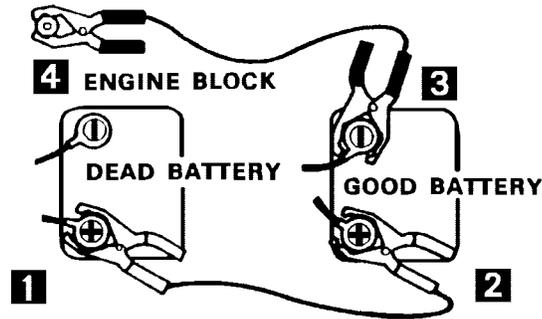

Figure 5-1. Proper jump start procedure
(1) Start the vehicle engine supplying the auxiliary power and adjust the engine idling speed to 1200 revolutions per minute (RPM).
(2) Connect the slave cable to the auxiliary power receptacle in each vehicle. Connect the slave cable positive-to-positive and negative-to-negative. If the dead vehicle has a master switch, turn it off while connecting the slave cable.
(3) Turn on the master switch in the receiving vehicle.
(4) Start the dead engine and adjust the engine idling speed to slow.
(5) Disconnect the extension cable from both vehicles as soon as the receiving vehicle idles at 650 RPM without stalling.
(6) Increase the engine speed in the receiving vehicle to 1000 to 1200 RPM. Check the vehicle's battery-generator indicator to ensure that it shows the battery is being charged.
d. Jump starting procedure. Refer to figure 5-1 for a proper jump starting procedure illustration. To jump start a vehicle, ensure that—
(1) Batteries are the same voltage.
(2) Both the negative posts are grounded.
(3) The electrolyte not frozen.
(4) The vehicles are not touching.
(5) Ignition and accessories are off, gears in park or neutral, and brakes on.
(6) Attach clamps in the order shown in figure 5-1. Remove clamps in reverse order.